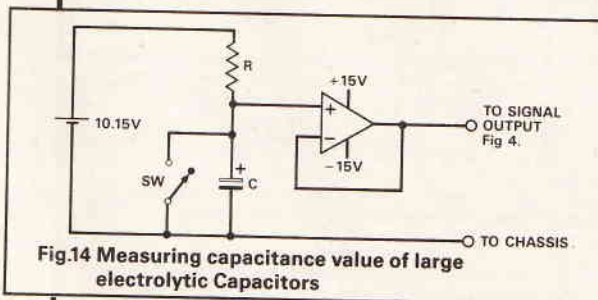

Fig.14 Measuring capacitance value of large electrolytic Capacitors
The external circuit used is shown in Figure 14.
Connect the output of Figure 14 to the signal output of channel 1 with channel 1 probe removed. Adjust R11 to 1° Celcius, this sets the reference voltage to 0.1V.
Put the capacitor into the position shown in Figure 14 with the switch SW1 left closed for 1 minute. Open SW1 and record the time taken for the capacitor voltage to rise from 0.1V to 0.2V ie by timing the pulse from Logic Output (A) in Figure 4. Note the average voltage across R during this timing period is 10V. The capacitance value can be read directly in terms of time as indicated below.
The dimensions of the test apparatus shown in Figure 14 are not critical, the main requirement is that the large aluminium plate must be much larger than the two test plates. Make a small aluminum plate just large enough in width so that it can be drilled to take a
along the length of the plate about 0.5 cm from the edge. Turn the wire back on itself so that the second length lies parallel to the first length and 0.5cm away from it. Stick this wire down with masking tape and then repeat the procedure until the whole plate is covered. A small strip of wood can be fastened to the inner side of each of the wood ends (Fig 14 to support the aluminum plate. The top of this plate should be 25mm from the top of the wood ends, so that when the sheet of expanded polystyrene is in position the top of this sheet is flush with the top of the wood ends. The cover sheet of hardboard can be screwed with wood-screws to the wood ends to hold everything below in position. At the rear of the apparatus a strip of plywood 130mm wide and long enough to reach from one wood end to the opposite wood end is screwed to the wood ends so that the lower end of the plywood is just above the bottom of the wood ends. A similar strip of plywood 60mm wide is screwed between the two wood ends at the front, but in this case it is mounted so that the top edge of the strip is flush with the top edge of the wood ends. These strips make the whole structure firm